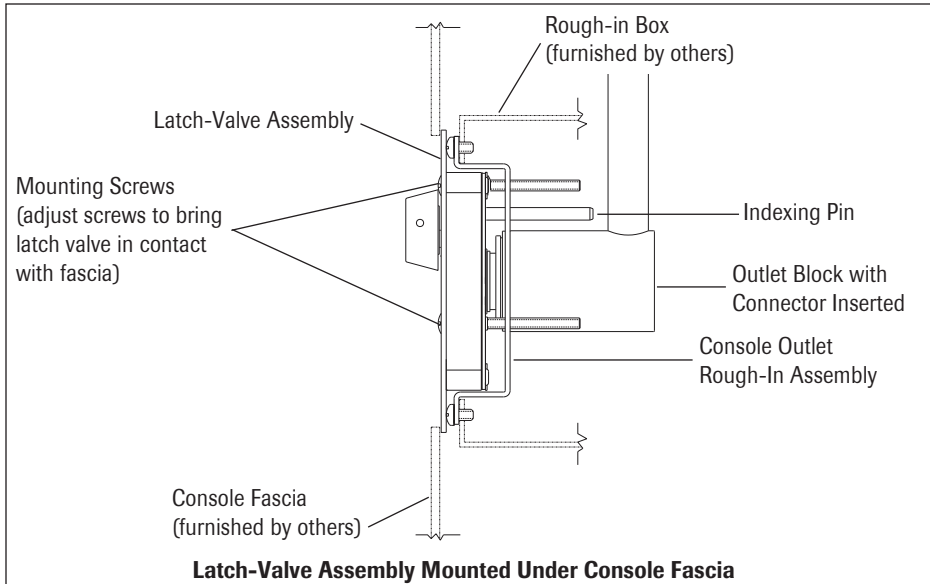

Figure 3
3. Installing the latch-valve assembly under the console fascia (Figure 3):